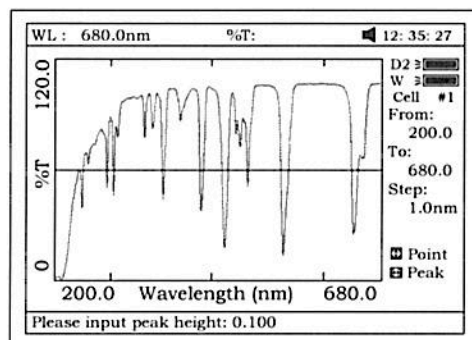
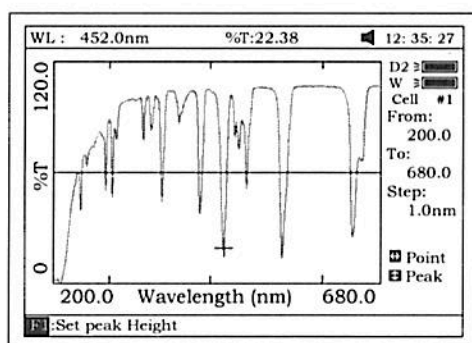

Fig 50
Fig 51
- 1) **Peak to peak**, press **【F1】** to set "peak height" and input value by pressing the numeric keypad (Fig 50). Press **【^】** to search the peak from left to right and press **【v】** to search from right to left. The value of every peak found will be displayed on the screen one at a time (Fig 51).